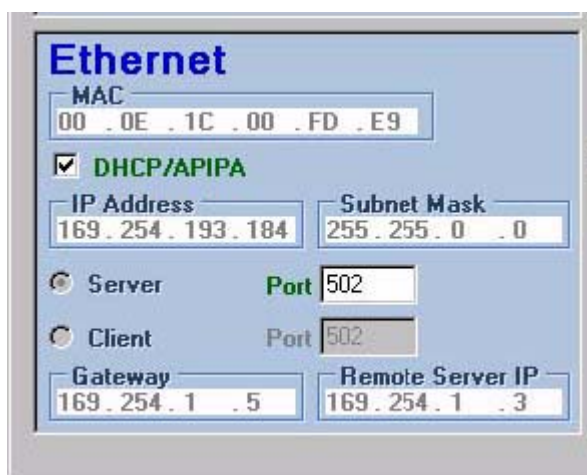

Figure 23 Ethernet section of utility program
Refer to Figure 23 and Table 9 for a description of the fields for Ethernet configuration.
3. Change the instrument settings if necessary. Refer to Figure 23 and Table 9 for a description of the settings. When configured as necessary, click **SAVE SETTINGS**.